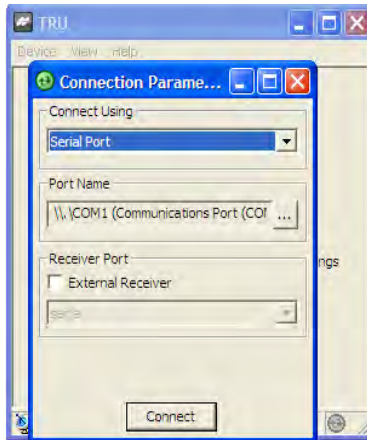

Figure 3-16. Connection Parameters
6. Click **Connect** (Figure 3-16).